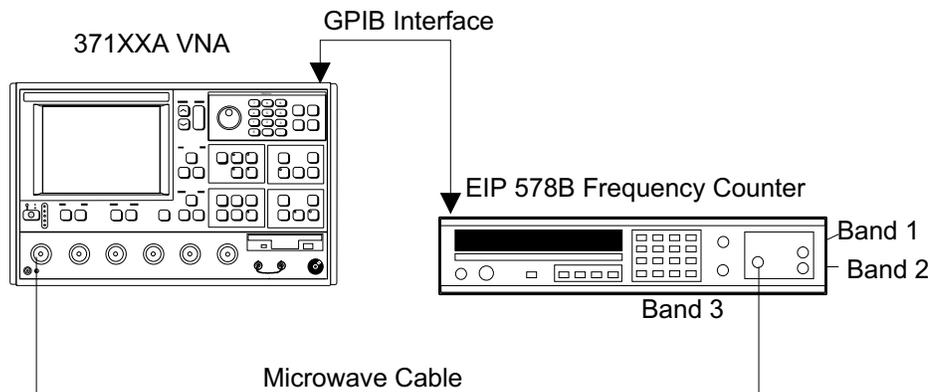

Figure 6-2. Equipment Set-Up for Frequency Calibration
Step 1. Connect test equipment as shown in Figure 6-2.